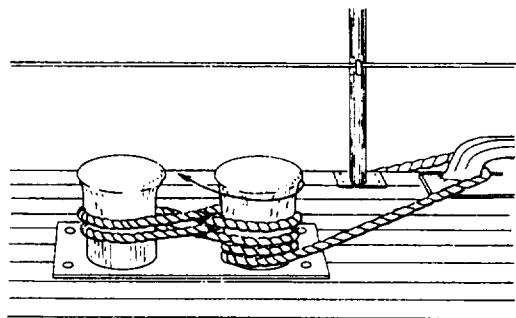

Figure 3-1.—Securing lines to bits.
1. Because of the lower coefficient of friction of synthetic fiber line, exercise extreme care when a line is being payed out or eased from securing devices (bits, cleats). For control in easing out, take two round turns and no more than two figure-eight bends. Any more than this will present danger to personnel and difficulty in handling the line. All lines on capstans and gypsy heads shall be payed out using power and never by surging. Figure 3-1 shows the method of securing a mooring line to the bits.